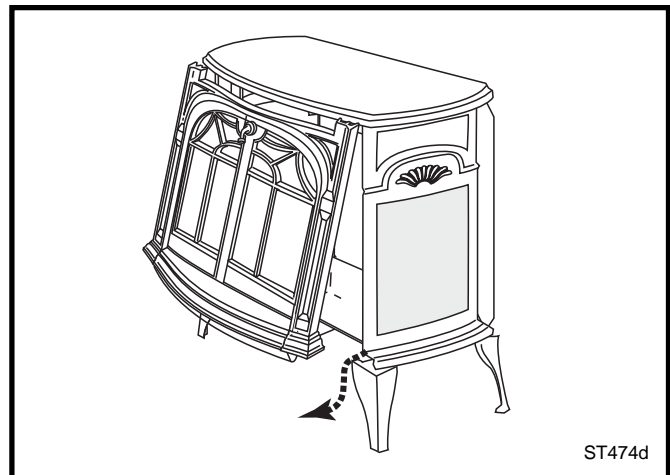

Fig. 65 Remove the Stove Front.
1. Remove stove front. Lift stove front up and then swing bottom out and away to disengage from the stove body. (Page 36, Fig. 65)
2. Lift the Stove Front up and then swing the bottom out to disengage it from the heater shell. (Fig. 65)
1. Remove the Front, Glass Frame and Glass Panel. (Figs. 65, 66) Remove the old gasket. Use a razor blade to separate the glass and gasket from the frame, and to clean the glass of any remaining cement or bits of gasket. Use a cold chisel if necessary.